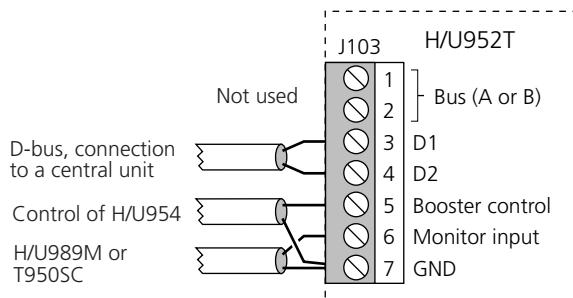

Figure 9. Connection via twisted-pairs.
- Connect control of power amplifier H/U954* to J103 screw 5 and 7, **and** monitor receiver H/U989M* or output power supervisor T950SC* to screw 6 and 7, see figure 9 above.